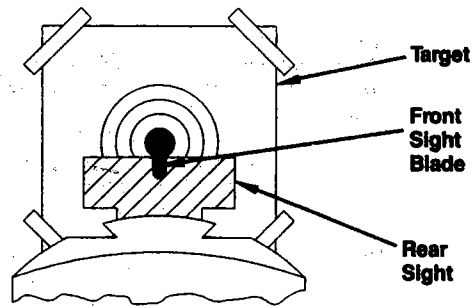

Fig. 7
- The air rifle is correctly aimed when the front sight blade is positioned exactly in the notch of the rear sight. The top of the front sight blade should be even with the top of the notch in the rear sight. The bull's eye should appear to rest on the top of the front sight. (Fig. 7)